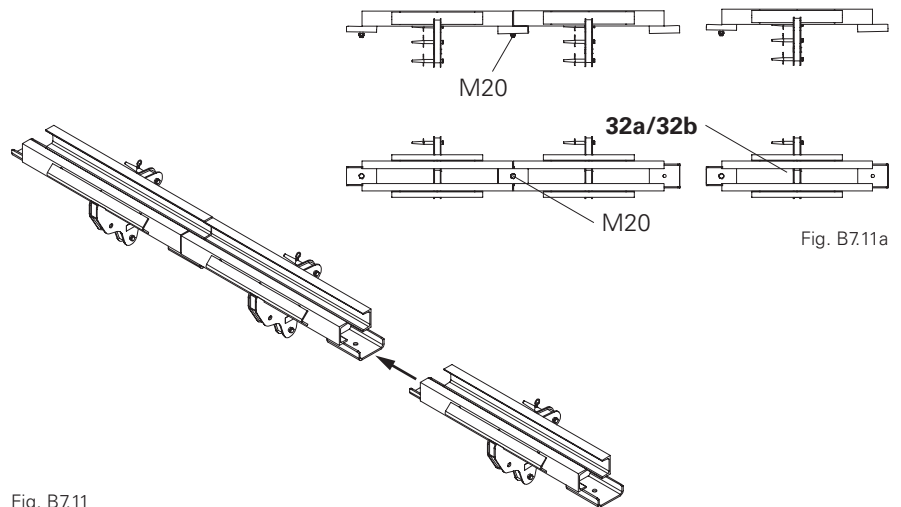

Fig. B7.11
2. Screw the connection plates together using bolts M20 x 45. (Fig. B7.11 + B7.11a)